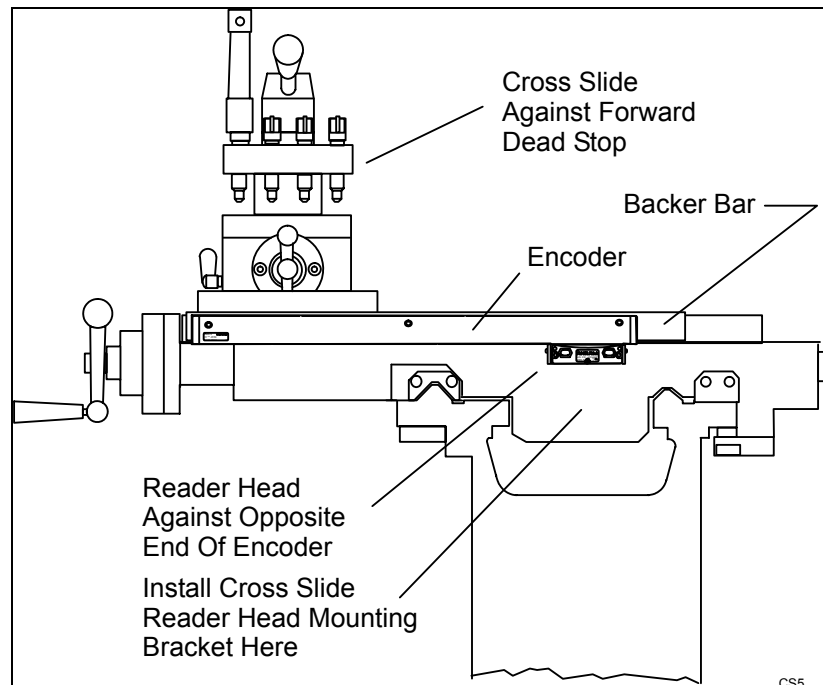

Figure 3, Locating Backer Bar Position
1. Refer to **Figure 3, Locating Backer Bar Position**. Move the cross slide to the dead stop position at the front of the machine.